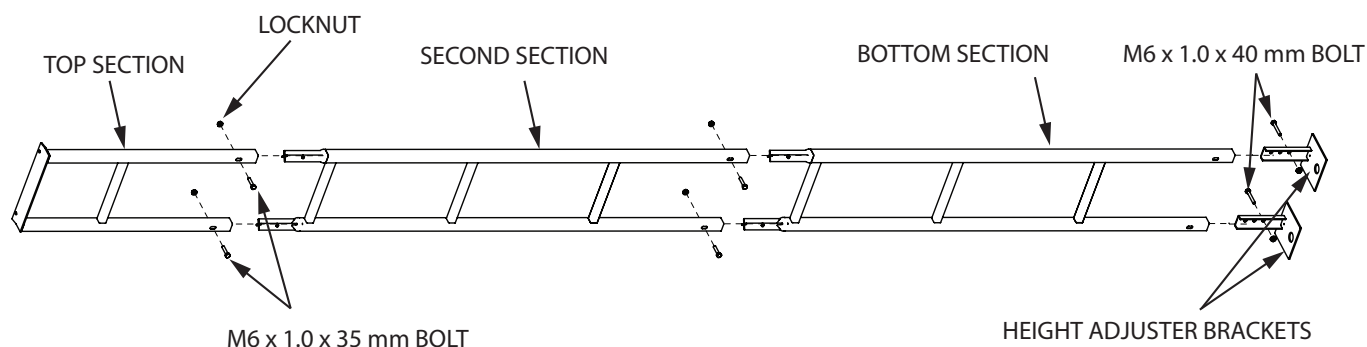

FIGURE 12
19. Assemble the (3) ladder sections on the ground in the following order: bottom section (AL1 ladder); second section (AL3 ladder); top section (TWR21 ladder).
**SEE FIGURE 12**
20. With all ladder sections assembled together on ground, secure all sections together using (4) provided M6 x 1.0 x 35 mm bolts and locknuts. **SEE FIGURE 12**
21. Attach the (2) height adjuster feet (TWR41) to the bottom ladder section using (2) provided M6 x 1.0 x 40 mm bolts and lock nuts. **SEE FIGURE 12**